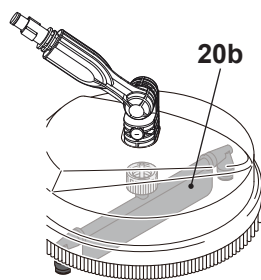

Fig. 25
- > Screw the rotating nozzle (20b) on the thread of the angle connector (20a). Tighten it well (Fig 25).